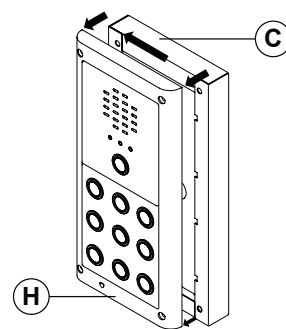

Fig. 59
6. Pull back the module support frame **(H)** from the surface box **(C)** while moving it slightly to the left, following the guide arrows, as shown in **Fig.59**;